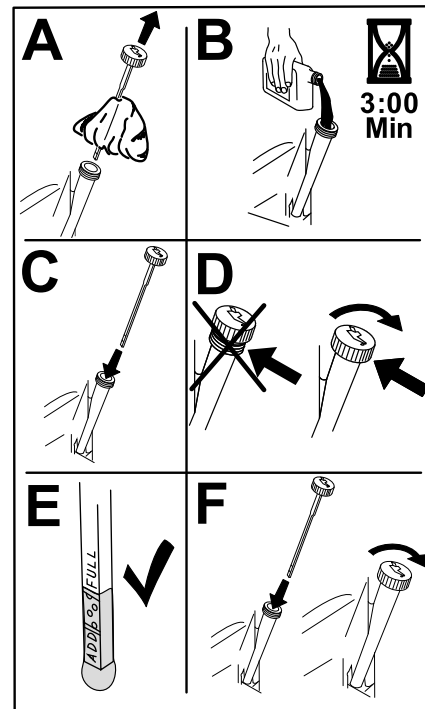

Figure 59
6. Slowly pour approximately 80% of the specified oil into the filler tube and slowly add the additional oil to bring it to the Full mark (Figure 59).